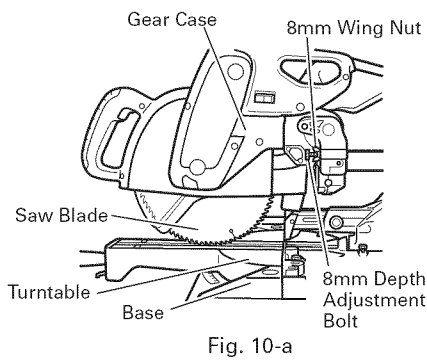

Fig. 10-a
To adjust the lower limit position of the saw blade, follow the procedures (1) to (4) indicated below. (Fig. 10-b)